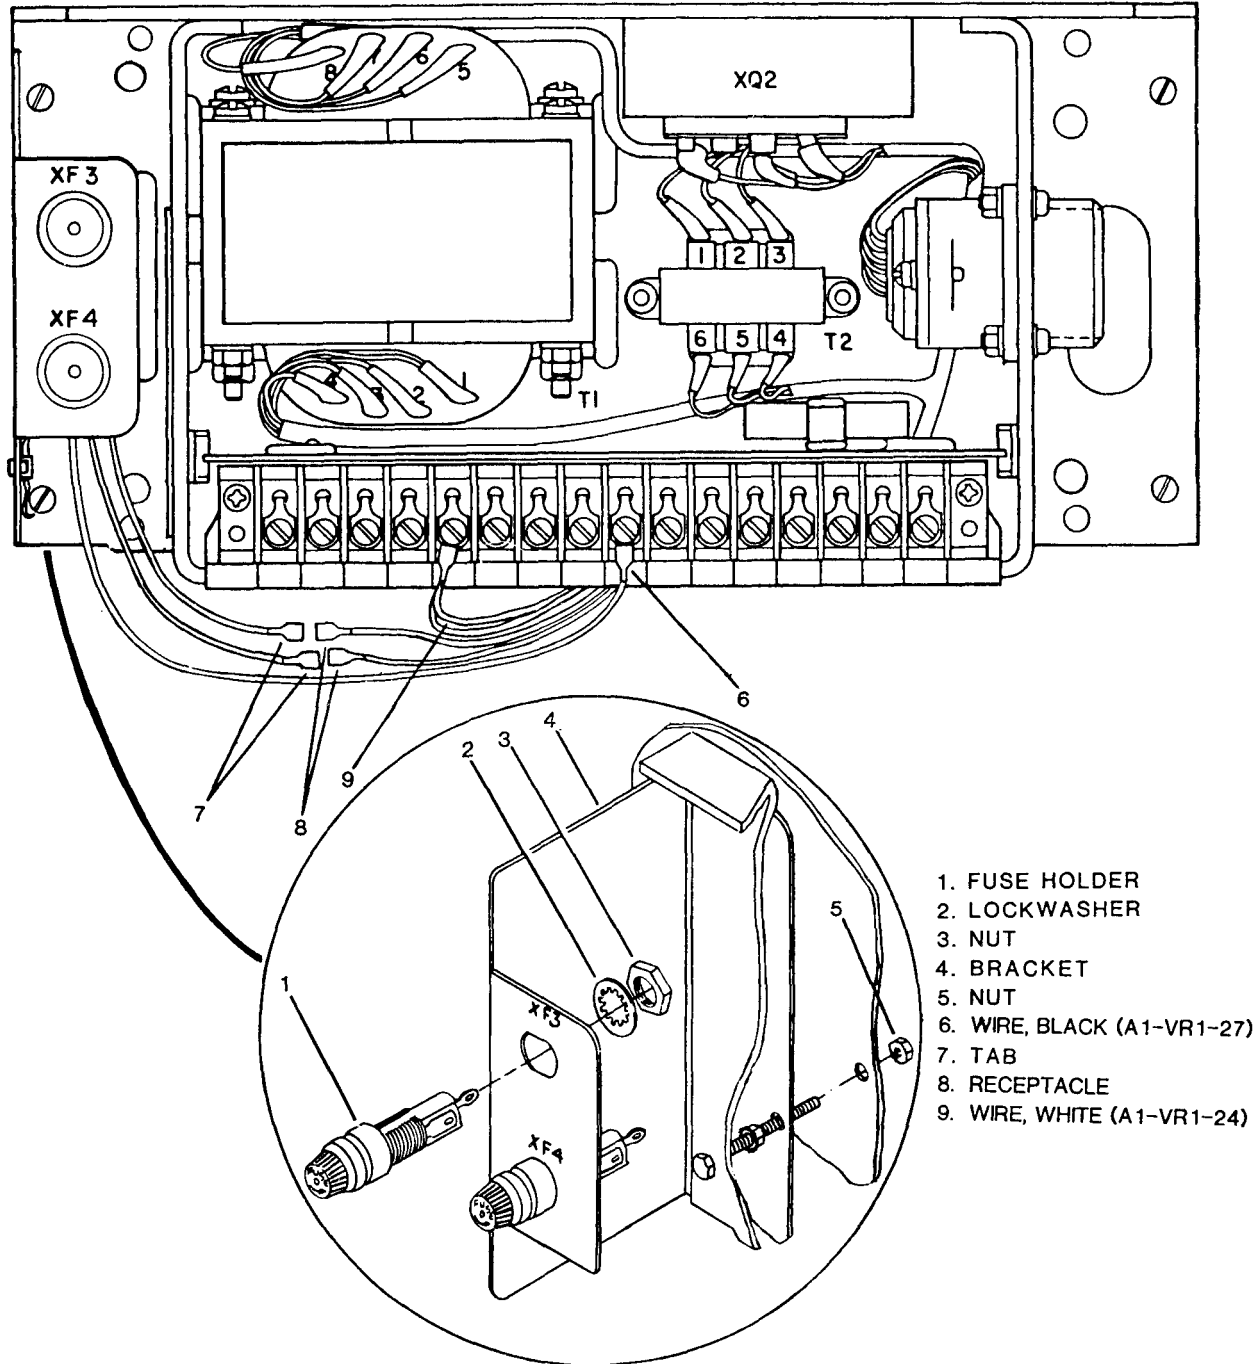
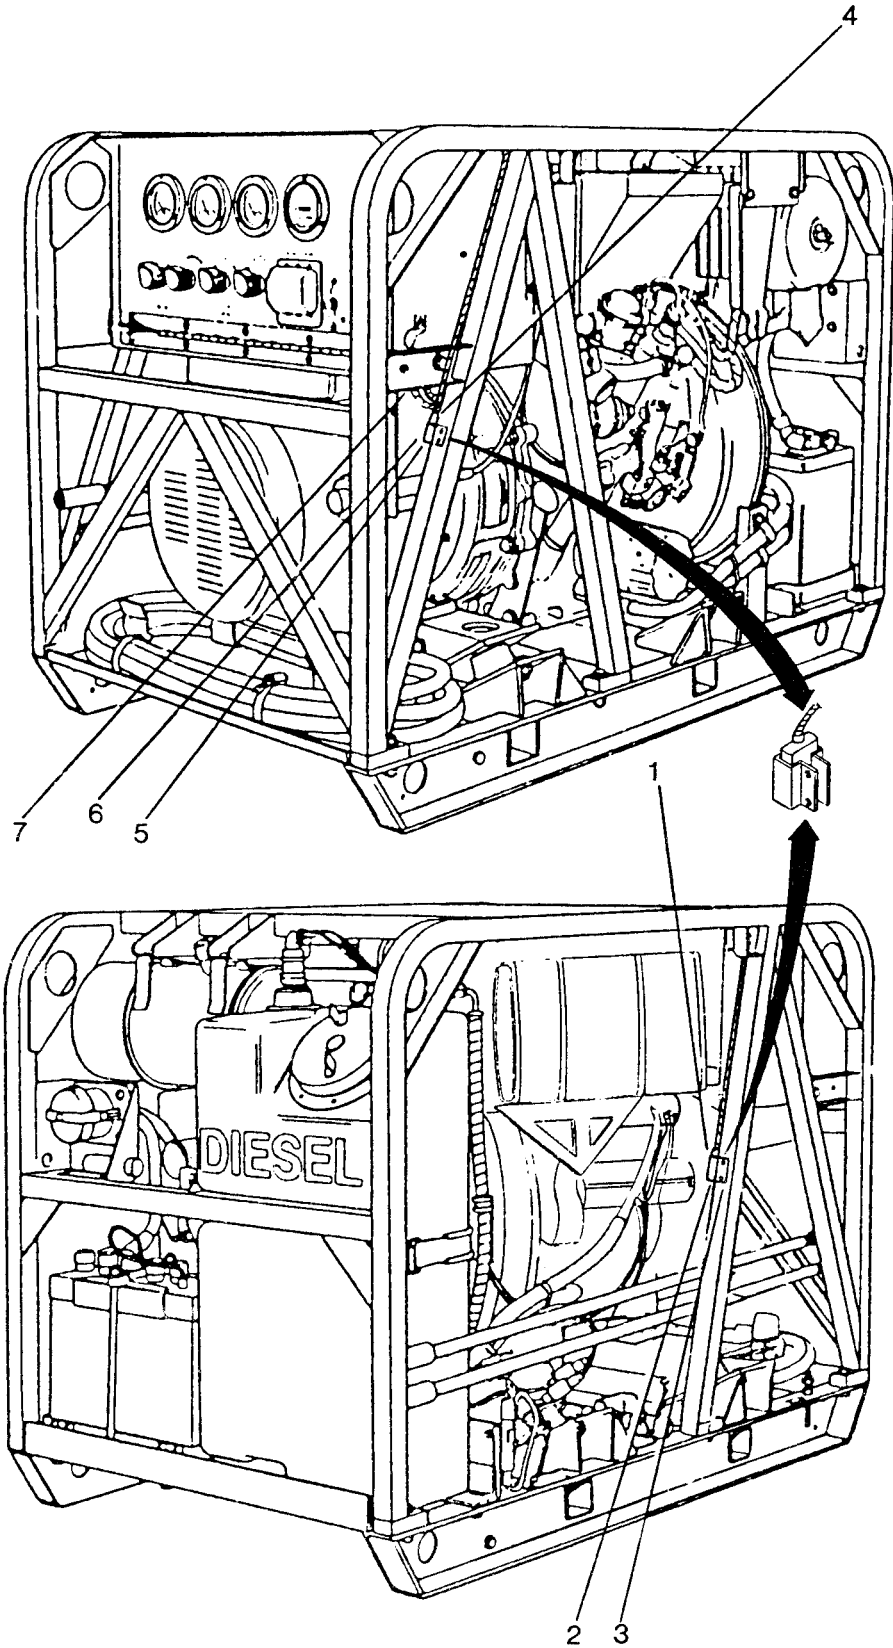

Figure 5-13. Fuse Block Assembly.
Figure 5-14. Capacitors C3 and C4.
5-26. FUSE BLOCK ASSEMBLY, MODIFIED GENERATOR. (See Figure 5-13.)
To prevent electrical shock, discharge capacitors C3 and C4, Figure 5-14, before attempting to test wiring harness.
- (1) Perform Removal steps for Panel 2, 3, 5, and 6 paragraphs 5-18, 5-19, 5-21 and 5-22, respectively.
- (2) Disconnect the negative (-) battery cable.
- (3) Open generator control panel.
- (4) Tag and disconnect white wire, A1-VR1-24, from terminal 24 of the regulator assembly A1-VR1 and disconnect the two male tabs (7, Figure 5-13) of the fuse block assembly from the two female receptacle(s) of the fan wiring harness.
- (5) Remove ties and clamps securing wiring harness.
- (6) Carefully remove harness from generator control panel bottom (7, Figure 5-14).
- (1) Capacitor C3. (See Figure 5-14.)
(2) Capacitor C4. (See Figure 5-14.)